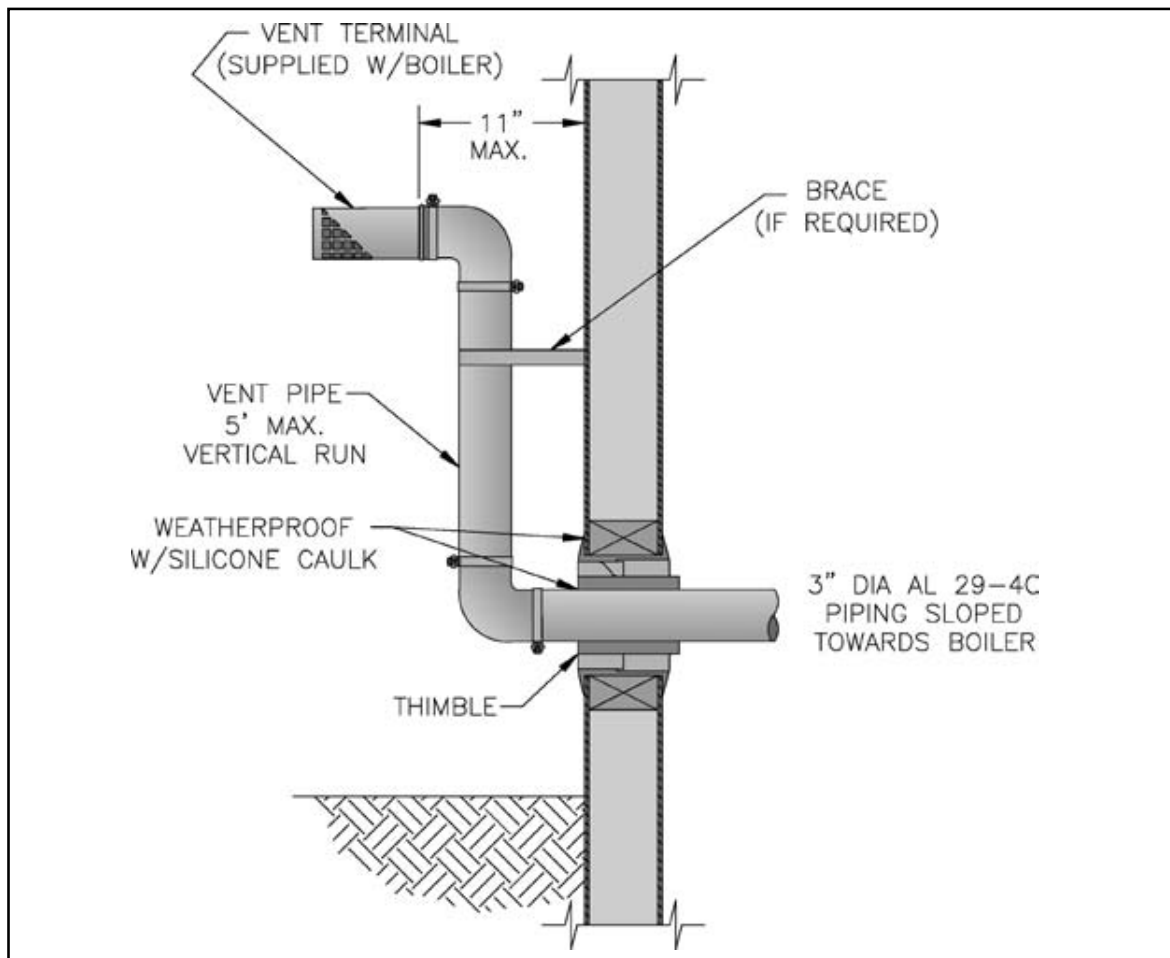

Figure 23: Optional Separate Horizontal Vent Terminal Installation
L. Optional Separate Horizontal Vent/Air Intake Terminal Mounting – See Figures 23, 24 and 25.